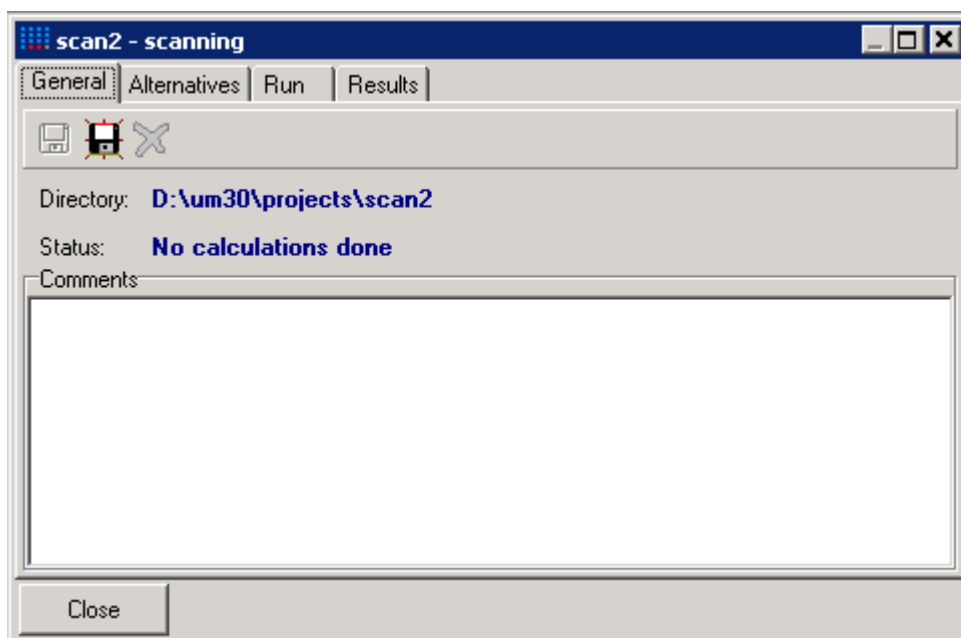

Figure 2.3. Scanning project: in the beginning
4. Click the **Create** button and after that a window for the description of new scanning project will appear, see Fig. 2.3.